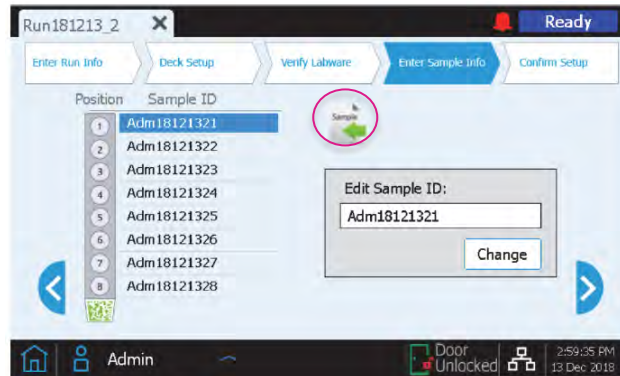

Figure 18. *Edit Sample Info* screen of the Magnis NGS Prep System, with a circle highlighting the load samples button.
- When setting up the run, on the *Enter Sample Info* screen, press the load samples button (highlighted with a circle in Figure 18).